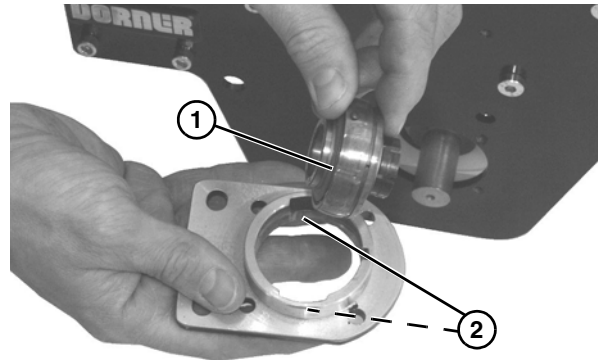

Figure 63
1. Turn bearing (**Figure 63, item 1**) to align with slots (**Figure 63, item 2**) in bearing housing. Then remove bearing.